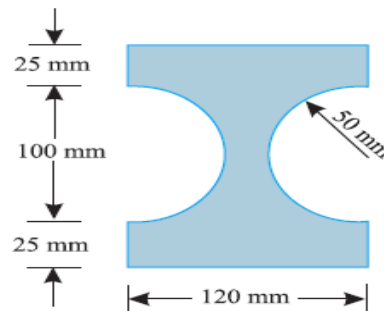

Fig.22
6. Figure 22 shows the cross-section of a cast iron beam. Determine the moments of inertia of the section about horizontal and vertical axes passing through the centroid of the section.